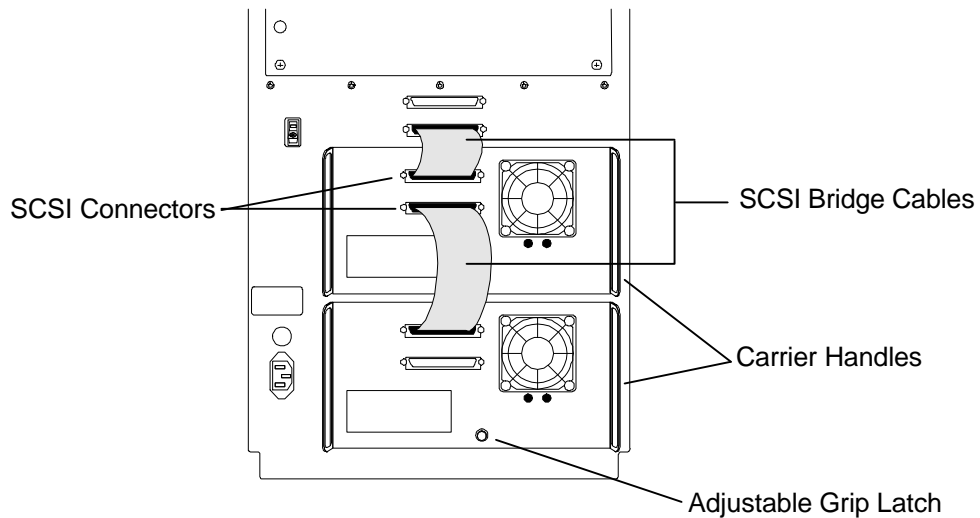

Figure 6 Tape Drives in rear of Library
2. Detach SCSI cables attached to the rear of the assembly. See Figure 6.